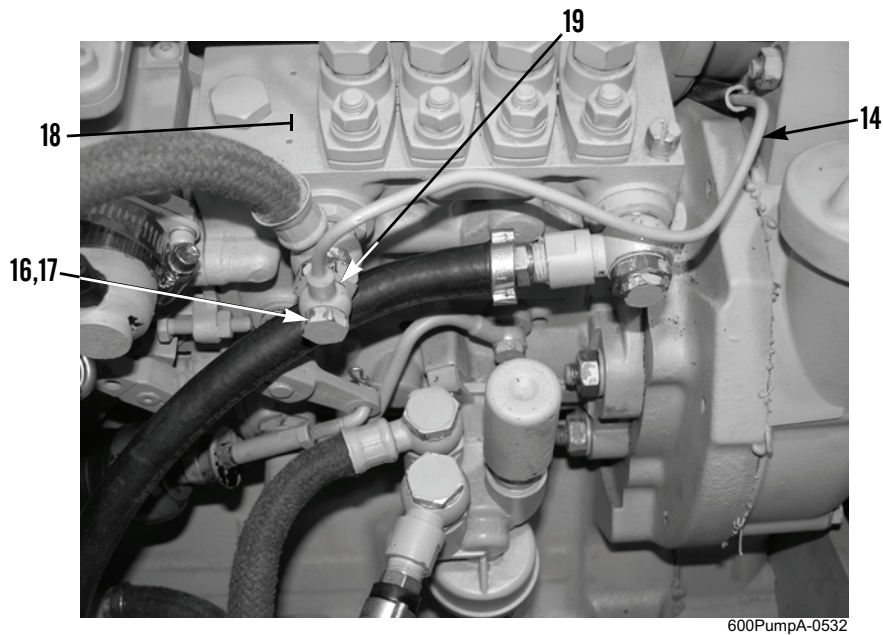

Figure 3. Fuel Line at Fuel Injection Pump.
7. Remove fluid passage bolt (Figure 3, Item 16), sealing washer (Figure 3, Item 17), fuel line (Figure 3, Item 14), and sealing washer (Figure 3, Item 19) from fuel injection pump (Figure 3, Item 18). Discard sealing washers.
1. Install new sealing washer (Figure 3, Item 19), fuel line (Figure 3, Item 14), new sealing washer (Figure 3, Item 17), and fluid passage bolt (Figure 3, Item 16) to fuel injection pump (Figure 3, Item 18).